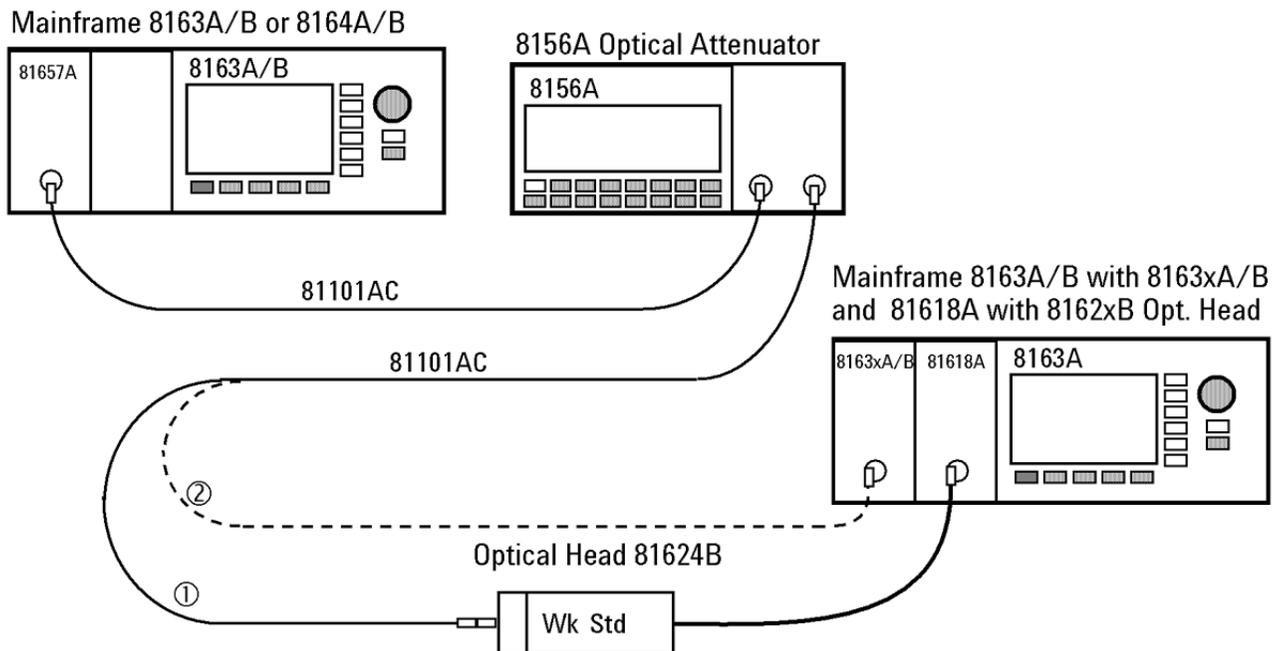

Figure 3 Accuracy Test Setup
- 2 Connect the equipment as shown in Figure 3 . Ensure that the cables to and from the attenuator are fixed on the table and that both the optical head and the DUT are close together so that minimum cable movement is required when connecting the cable to the head or to the DUT.